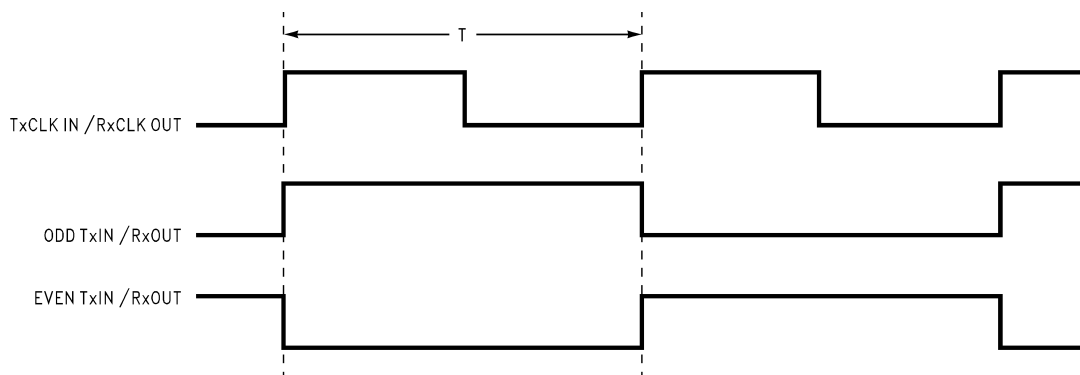

Figure 2. "WORST CASE" Test Pattern
- (1) The worst case test pattern produces a maximum toggling of digital circuits, LVDS I/O and CMOS/TTL I/O.
- (2) The 16 grayscale test pattern tests device power consumption for a "typical" LCD display pattern. The test pattern approximates signal switching needed to produce groups of 16 vertical stripes across the display.
- (3) Figure 2 and Figure 3 show a falling edge data strobe (TxCLK IN/RxCLK OUT).
- (4) Recommended pin to signal mapping. Customer may choose to define differently.